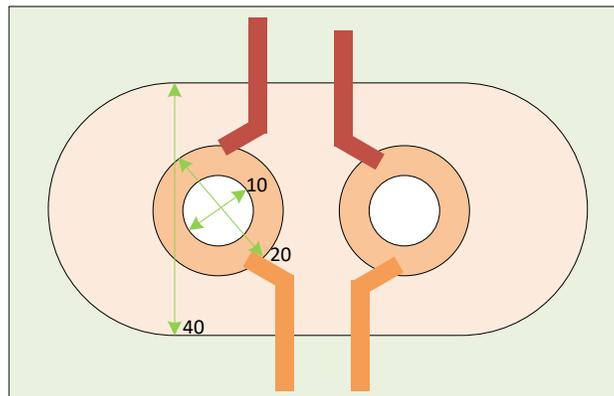

Figure 23-1. Pad Layout Example
2. For vias, follow the 10/20/40 drill/pad/anti-pad rule. See Figure 23-1
4. GND stitches around the anti-pad must be used – as many as possible to improve the current return path given the reference layer is changing. See Figure 23-1.